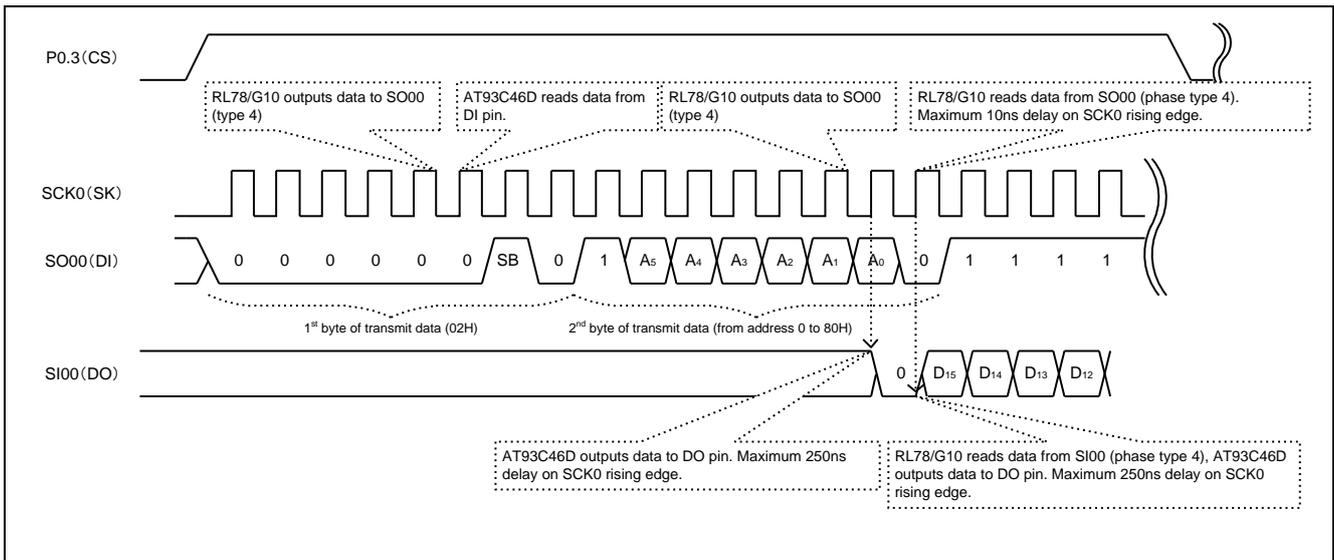

Figure 5.2 READ Instruction Execution Timing
- (5) Execute the READ instruction (read data) for the external target device. The addresses are read from 0 to 63. Results are displayed on the debugger (CS+) screen to confirm that the written data and read data match. The read range is from addresses 0 to 63 of the external target device, so the READ instruction is executed 64 times. Figure 5.2 shows the READ instruction execution timing.
Figure 5.2 shows the READ instruction execution timing.